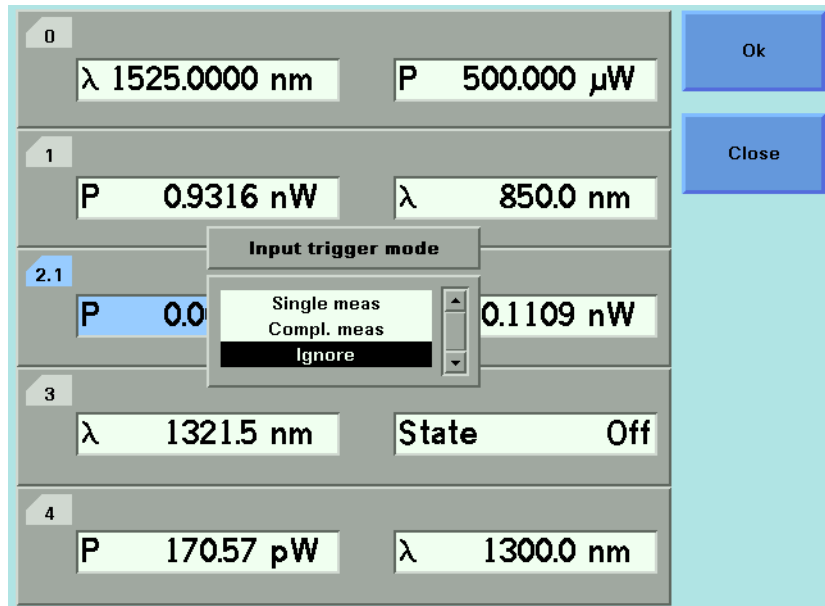

Figure 70 Input Trigger Mode
- 3 Move to <Input Trigger Mode>, by using the cursor key, and press *Enter*. You will see the screen in Figure 70 on page -120.